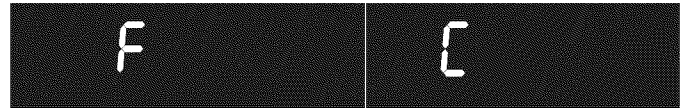

Figure 15: Display showing Fahrenheit and Celsius
2. Once F (or C) appears in the display, press the Up / Down arrow keys to toggle between Fahrenheit and Celsius temperature display modes (See Figure 15).